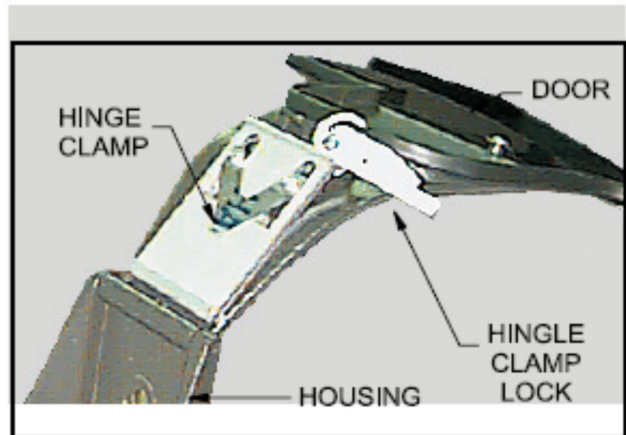

FIGURE 1
2. UNLATCH DOOR SLOWLY, OPEN AS FAR AS SAFETY CABLE WILL ALLOW. DISENGAGE SAFETY CABLE FROM DOOR. OPEN DOOR FURTHER UNTIL HINGE CLAMP LOCK IS ACCESSIBLE, ROTATE HINGE CLAMP LOCK TO FREE HINGE CLAMP. (FIG 1) PULL HINGE CLAMP AWAY FROM HINGE. CAREFULLY ROTATE DOOR TOWARD THE CLOSED POSITION UNTIL HINGE DISENGAGES.